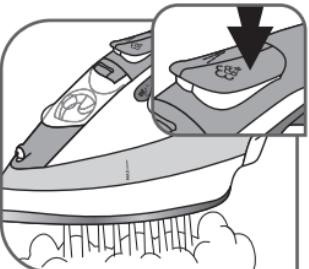
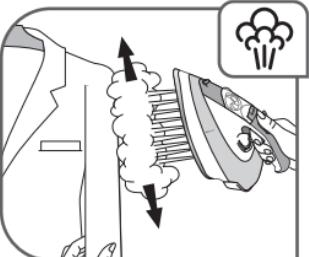

Fig. 12
Fig. 15
- For the TURBO function, set the thermostat control to “MAX” or “***”. Press the TURBO button from time to time – fig.12.
- Hang the garment on a hanger and hold the fabric slightly taut with one hand. The steam is very hot, so you should always do this with the garment on a hanger – never iron clothes which someone is wearing – fig.15.
- Press the turbo button in pulses – fig.12 and move the iron from the top to the bottom – fig.15.